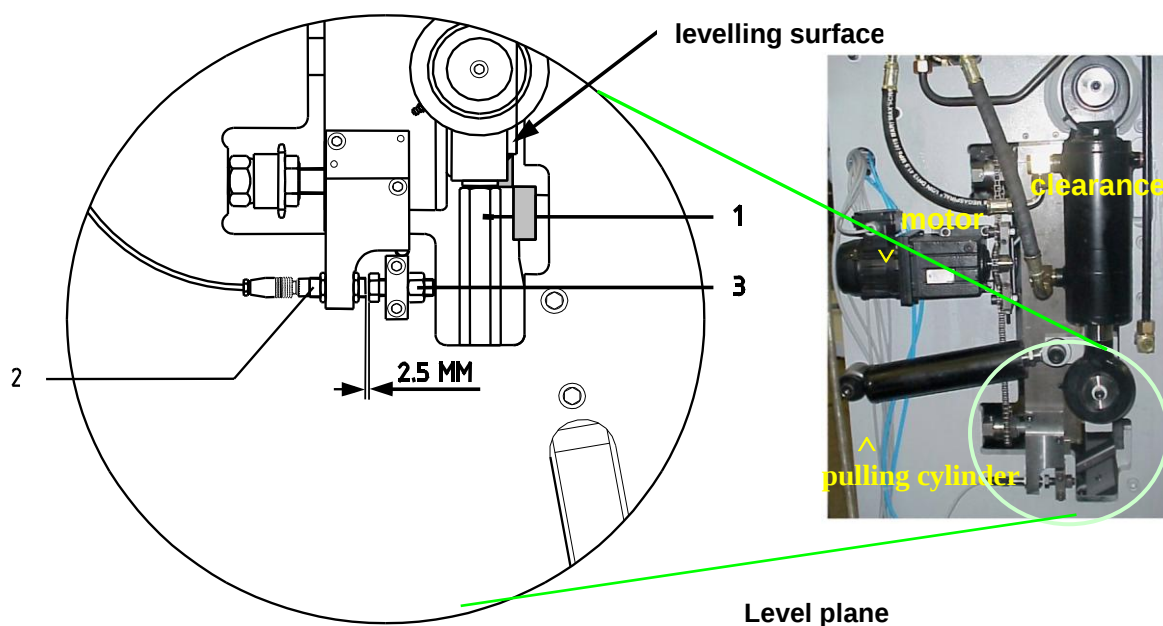
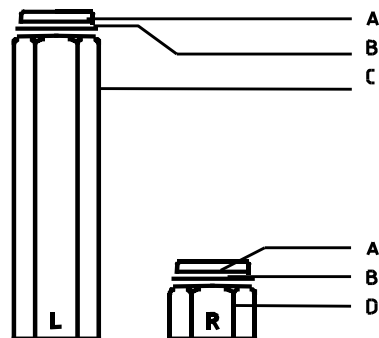

Figure 22. Clearance sensor
Figure 23 Stop block set
2. Switch off the main switch (26).
3. Remove the protective caps (14).
4. Check that the bolts on the pulling cylinders (see fig. 22) and the lock nut on the joint head are tight.
- Tighten the cone nuts (3) on both toothed wheels (2) if loose.
6. Check whether the cutter beam is horizontal by placing a spirit level against the level plane on the cutting beam (see fig. 22) and adjust if necessary (see below).
8. If this is not the case, turn back the clearance motor (see fig. 22) manually (with the bolt on the back of the clearance motor) so that the clearance is increased.
9. Insert the stop blocks (see fig. 23) between the bottom of the cutter beam and the opening in the side frame on both sides of the machine (see fig. 22).
- Turn the adjustment bolt until the distance between the clearance sensor and the clearance adjustment bolt is 2.5mm (see fig. 22).
2. Place the stop blocks supplied (see fig. 22 in section 2.1.1) between the cutter beam and the recess in the frame on the right and left-hand sides.
3. Turn the key switch (25) to position 3, “Set cutters”.
4. Press the Main motor on switch (24). The cutter beam first moves into a horizontal position and then downwards until it is in contact with the stop blocks; see also section 2.1.1.
5. For safety reasons, switch the main switch (26) off.
Once the top cutter has been re-ground, the stop blocks will need to be re-adjusted; see fig. 23, section 2.1.1.